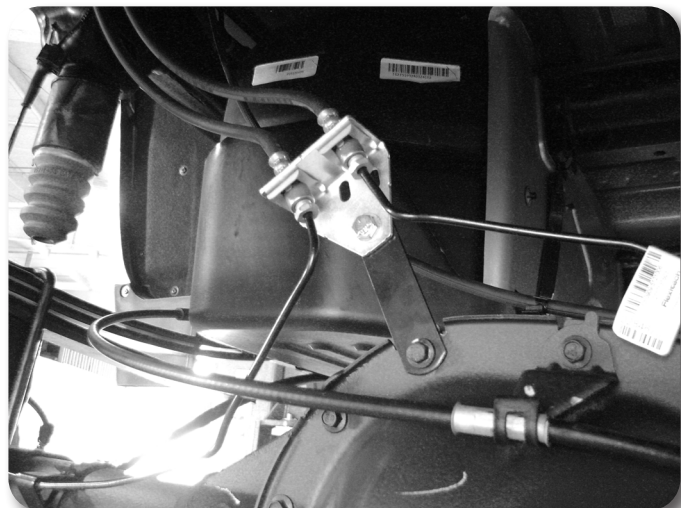

Figure 46
15. Install the provided straight 3" brake line bracket to the top of the differential using factory mounting hole and bolt which must be removed from the factory brake line bracket. Attach the factory brake line bracket to the relocation bracket with a 5/16" x 1" bolt, nut and washers. Torque the factory and 5/16" bolt to 20 ft-lbs Figure 46.